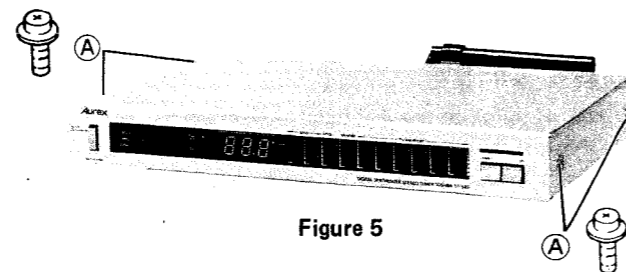

Figure 5
1. Remove four screws (A) (3φ x 6mm) holding the top cover and one screw (B) (3φ x 8mm) holding the top cover and the rear panel, then the top cover can be removed out. (See Figure 5 and 6)